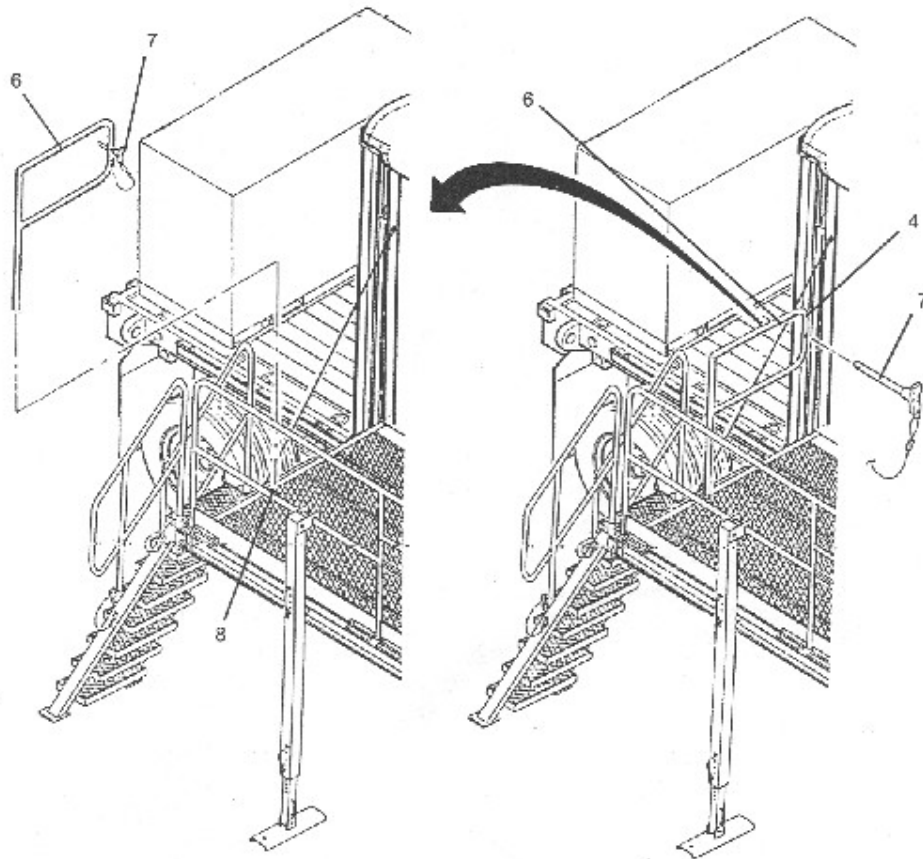

Figure 3-41
- a. Raise and secure railing (1) as follows:
- (1) Lift railing (1) up to vertical position.
- (2) Pull quick-connect pin (2) out of railing (1) and gate (3).
- (3) Swing gate (3) over and mate with ISO frame (4).
- (4) Install quick-connect pin (2) to secure gate (3) to ISO frame (4).
- (5) Flip four support brackets (5) over railing (1).
- b. Install side railing (6) as follows: (See Figure 3-41)